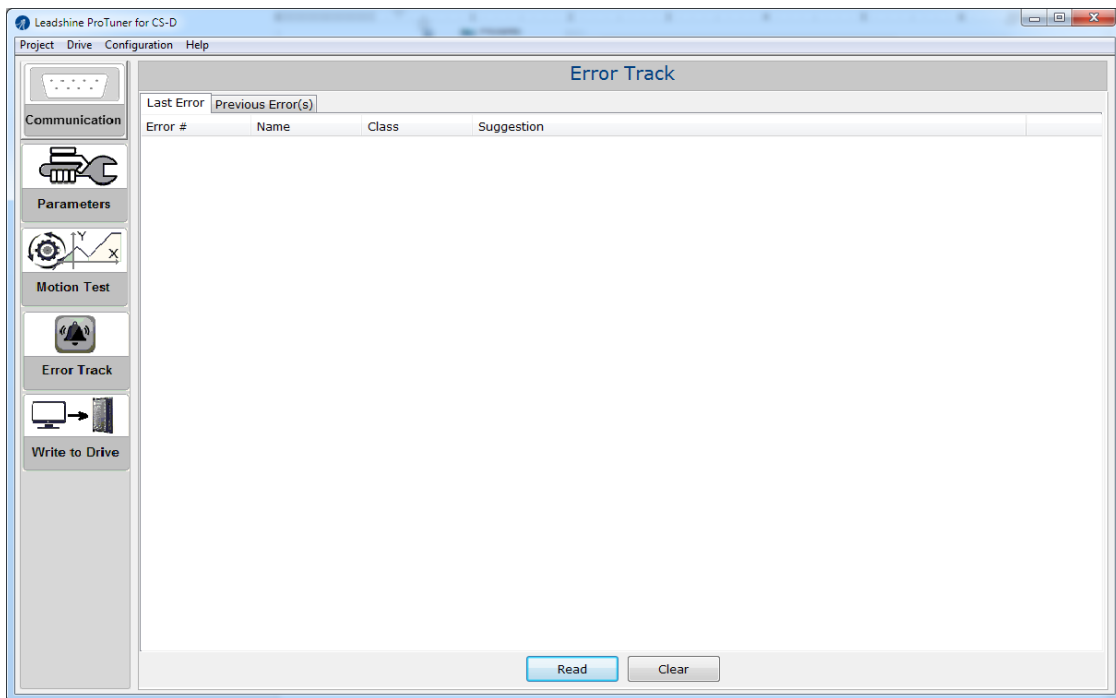

Figure 23: Error Track window
- Click Error Track icon on the left toolbase or click Drive->Error Track menu item, the Error Track window (Figure 23) will be displayed.